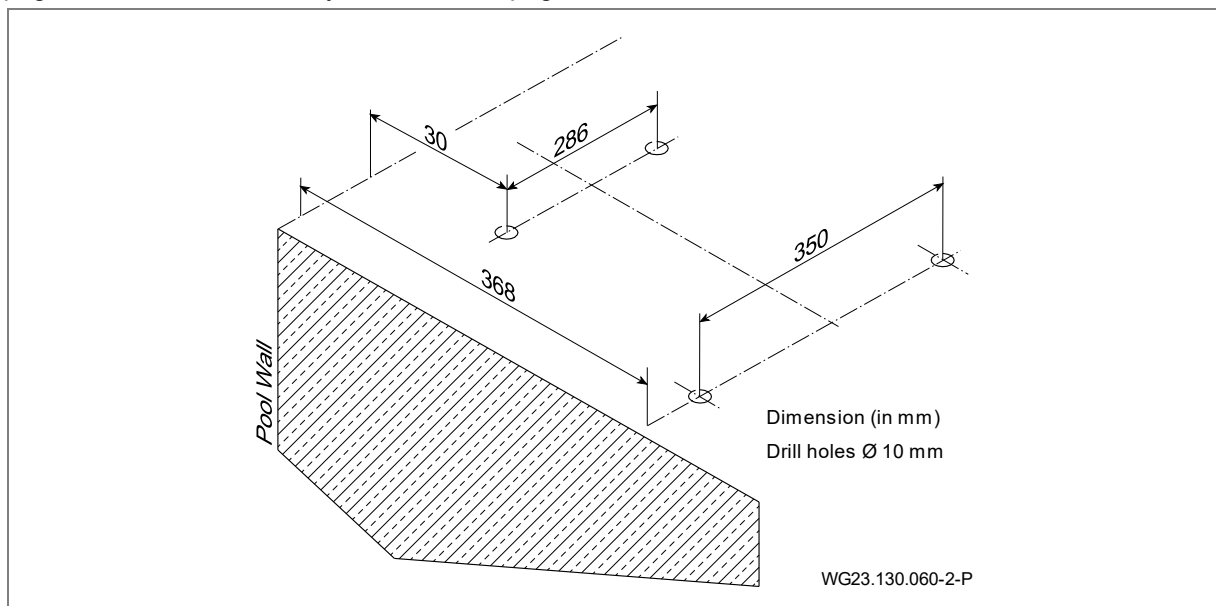
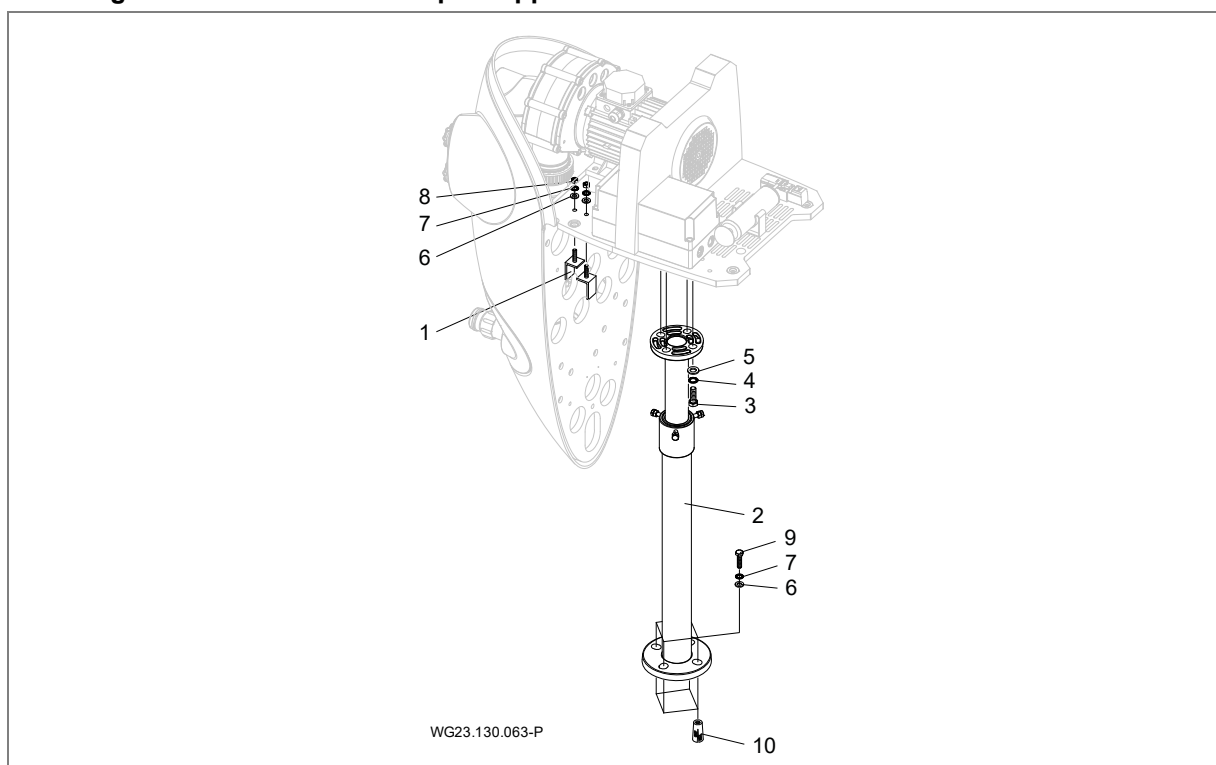
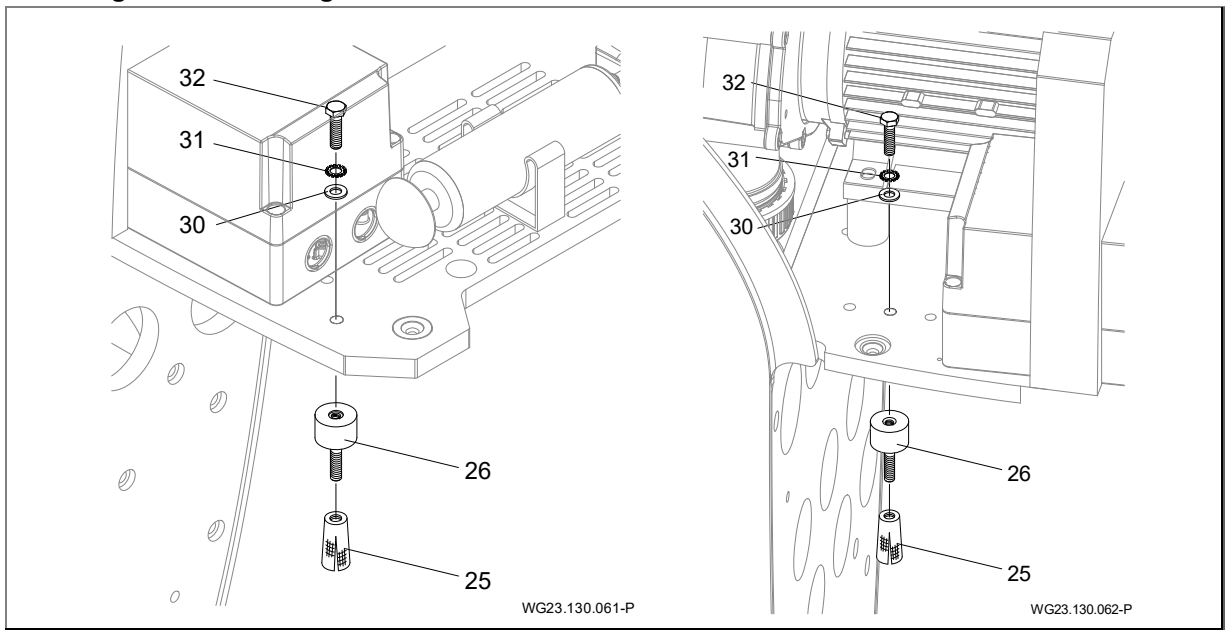

Fig. 23
Fig. 24
Fig. 25
- Select the assembly site and prepare it in accordance with "Fig. 23" on page 45. If the unit is being used in an above ground pool, the telescopic support foot must be used, for attachment instructions see "Fig. 24" on page 45.
- Lift the unit and drill the Ø10 mm holes on the markings. See "Fig. 23" on page 45.
- Insert brass dowels (25) and screw on the metal vibration buffers (26). See --- fehlender Linktext -- - on page 46.
- Set the unit on the metal vibration buffers and secure it with hexagonal bolts (32), toothed locked washers (31) and flat washers (30). See "Fig. 24" and "Fig. 25" on page 46.